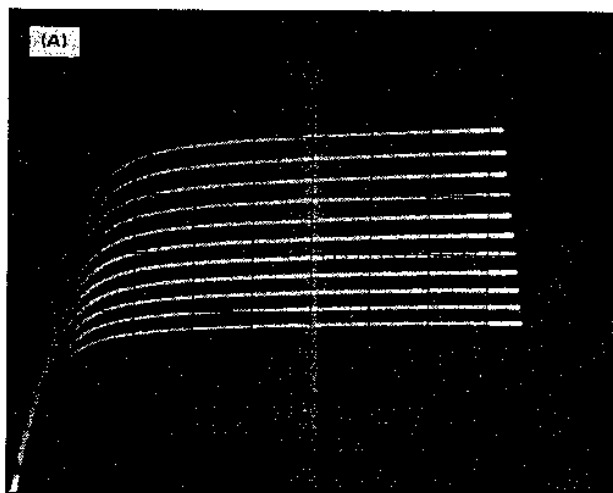

Fig. 14A. Illustration of step 19,  $g_m$  calculation.
18. Set the LEFT-RIGHT switch to LEFT. Turn the VARIABLE COLLECTOR % slowly clockwise. Note the display of drain current vs. drain-source voltage. Since the steps applied to the gate are positive-going, the curves represent the enhancement mode of operation of the FET (see Fig. 14A). Press the STEP FAMILY SINGLE button to locate the curve obtained with zero volts on the gate.